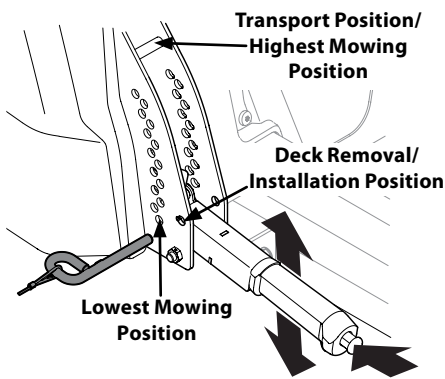

Figure 4-12
- a. Using the deck lift handle, raise the deck to the position that provides the most horizontal run of the belt between the deck idler pulleys and the PTO pulley on the bottom of the engine. See Figure 4-12.
- d. Lower the deck into the deck removal/ installation position using the deck lift handle. See Figure 4-12.
- e. Lower the deck into the deck removal/ installation position using the deck lift handle. See Figure 4-12.
1. Place the deck lift handle in the highest mowing position See Figure 4-12.